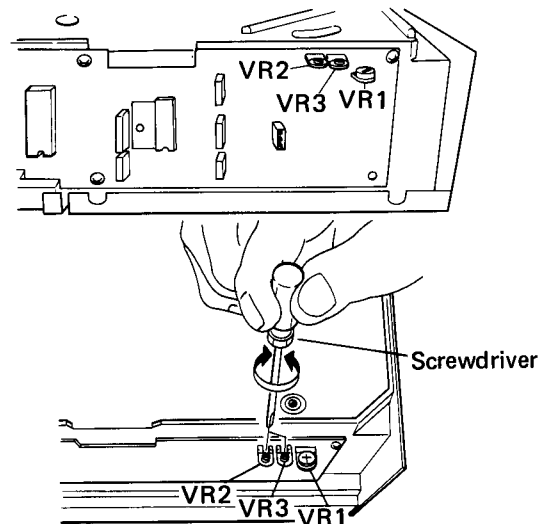

Fig. 9.4 Adjustment Position
- The voltage difference is decreased by turning VR1 clockwise, and increased by turning counter clockwise (see Fig. 9.4).